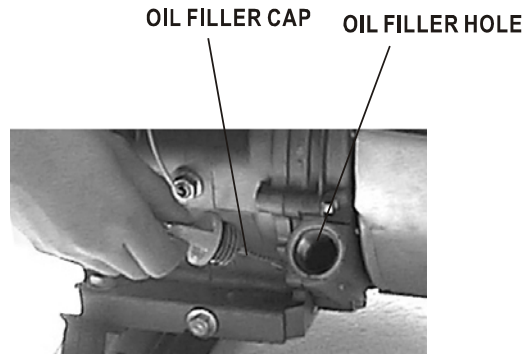

Figure 14- Checking the oil
2. Remove the oil filler/dipstick cap and check oil level as shown in figure 14.
2. Remove the oil filler/dipstick cap from the engine as shown in figure 14 above.